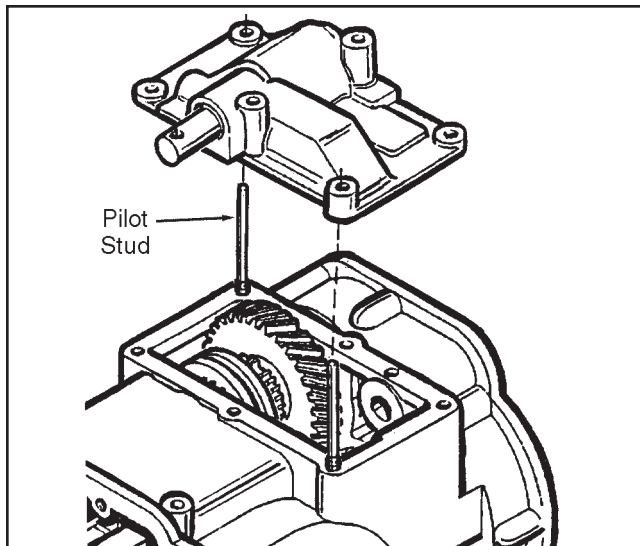

Figure 4I-10. Installing Shift Control Cover
7. Install two 5/16-18 pilot studs in opposite holes as shown in Figure 4I-10. Install the cover over the pilot studs. Be sure the shift fork enters the groove of the shift collar and remove the pilot studs.
1. If not previously removed for shift control cover repairs described above, remove the six cover retaining screws and flat washers and lift the shift cover off the differential housing as shown in Figure 4I-9.